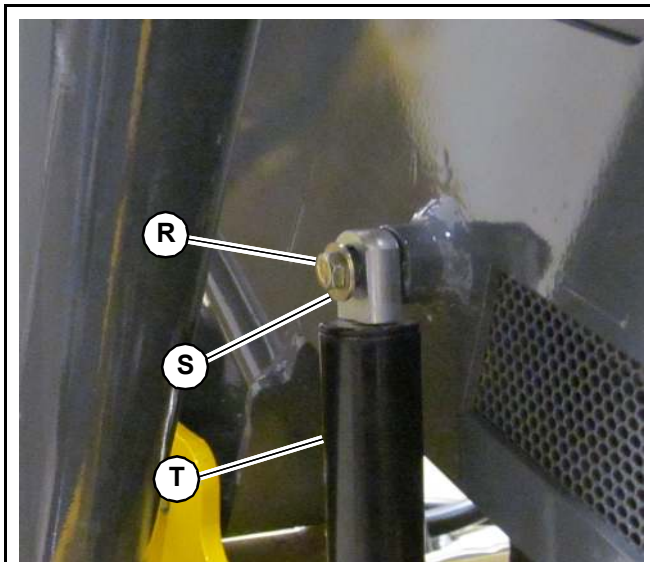

Fig. 269 – ROPS/FOPS Support Strut—Top
17. Remove cap screw (R, Fig. 269) and flat washer (S). Lower support strut to fender.